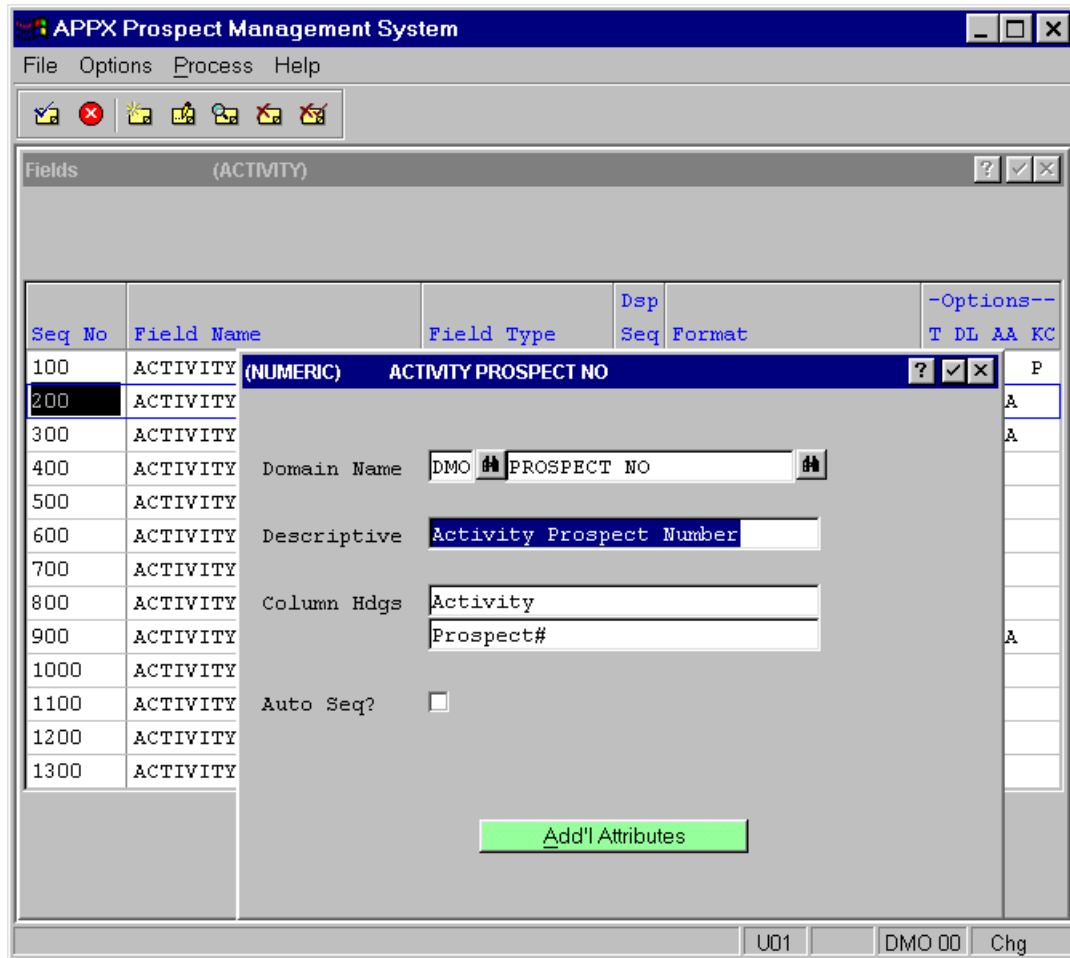

Figure E1.12 – Field Definition Based on a Domain
- Press **ENTER** to view the field specifications (*Figure E1.12*). Notice that the definition of the **ACTIVITY PROSPECT NO** field is indeed based on the **PROSPECT NO** domain.